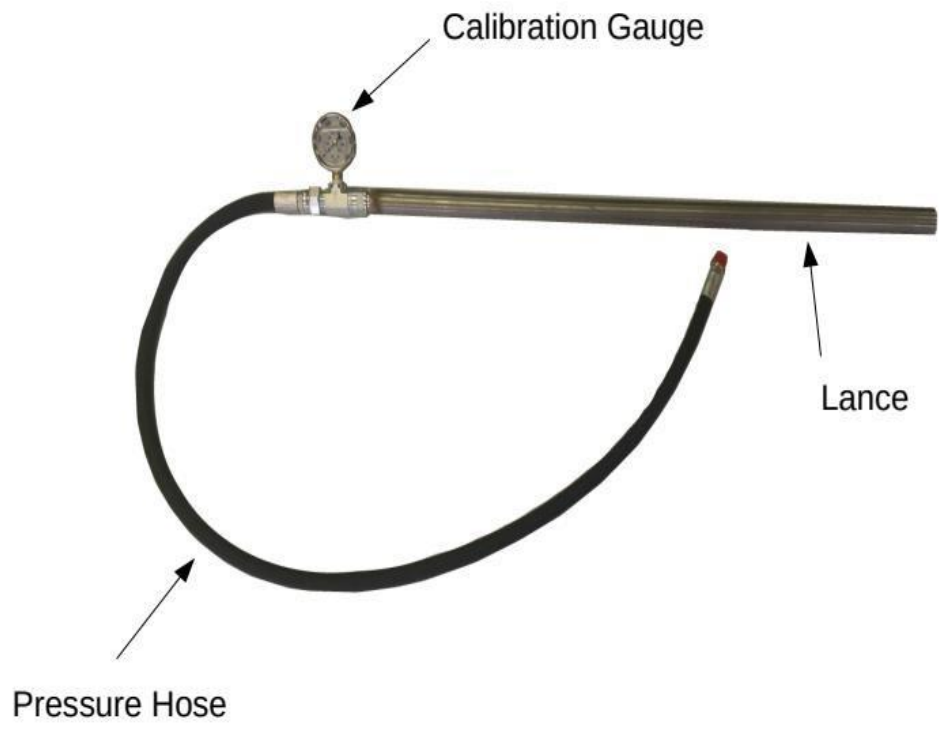

Figure 5.1 – Lance Pressure Calibration
- Attach the calibration gauge between the main hose line and the lance and tighten it. (See Figure 5.1)
- Hold the lance tight and observe the calibration gauge (See Figure 5.1).